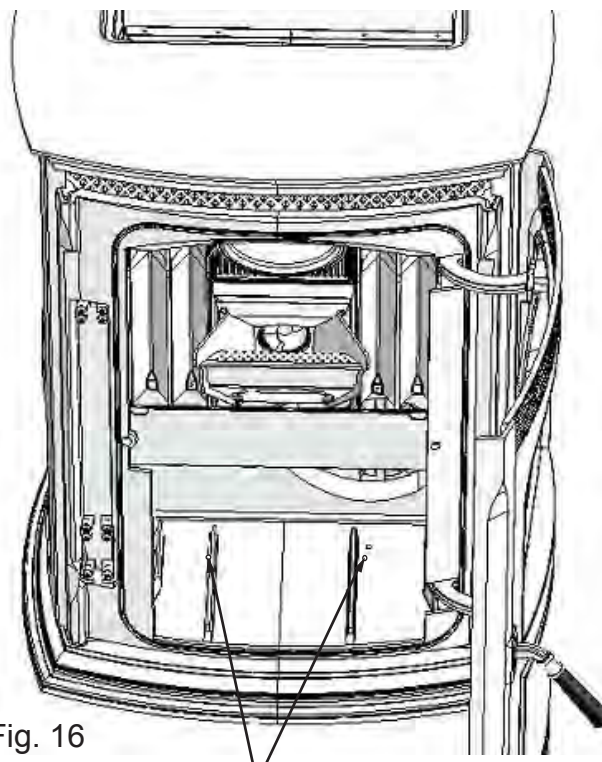

Fig. 16
1. The unit must be bolted to the floor. This can be done with 1/4" lag screws through the 2 holes in the base plate shown in Fig. 16